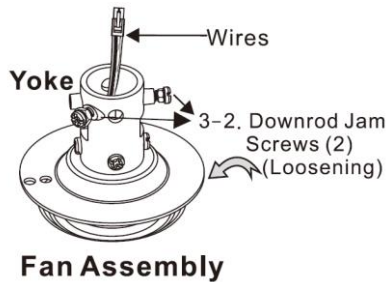

Fig. 4
4. Loosen the two downrod jam screws at the yoke (above the motor) – do not remove (Fig. 4).